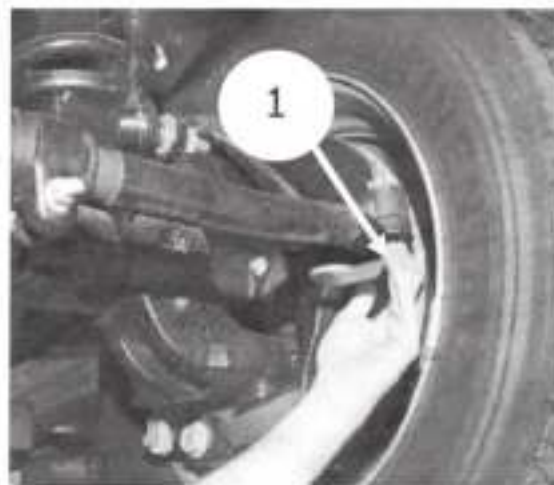

Figure 2 – Adapter Tool
3. Measure the right (Passenger Side) and Left (Driver Side) Tie Rod End Ball Stud housing angles from underneath the truck. Hold Tie Rod End Alignment Adapter tool (Miller Tool #10326-1) securely under the circular bottom plane of the Ball Stud housing (Fig. 2).